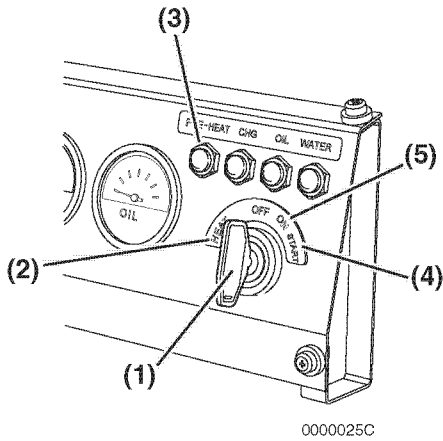

Figure 3
7. Insert the key into the key switch (Figure 2, (1)) or (Figure 3, (1)).
- Turn the key to the ON position (**Figure 2, (2)**) or the HEAT position (**Figure 3, (2)**). The pre-heat indicator (**Figure 2, (3)**) flashes for several seconds and then goes out. After the pre-heat indicator goes out you can start the engine.
- Turn the key clockwise to the START position (**Figure 2, (4)**) or (**Figure 3, (4)**). Release the key as soon as the engine starts. It will return to the ON position (**Figure 2, (2)**) or (**Figure 3, (5)**).